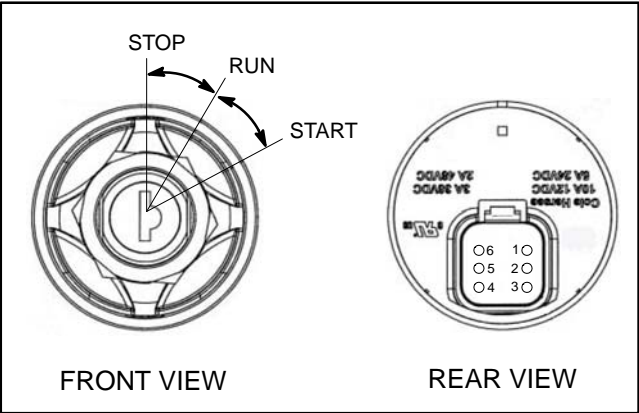

Figure 24
The ignition (key) switch is located on the control panel and has three (3) positions: STOP, RUN and START (Fig. 24). The Toro Electronic Controller (TEC) monitors the operation of the ignition switch.
**NOTE:** The engine can only be started when the functional control lever is in the NEUTRAL position and either the seat is occupied or the parking brake is engaged. Also, the TEC controller limits engine cranking time to thirty (30) seconds.
5. The ignition switch terminals are identified in Figure 24 and the circuitry of the switch is shown in the chart in Figure 25. With the use of a multimeter (ohms setting), the switch functions can be tested to determine whether continuity exists between the various terminals for each switch position. Verify continuity between switch terminals.